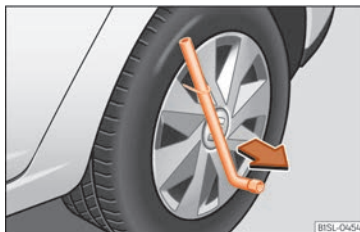

Fig. 30 Remove the wheel cover.
- Insert the box spanner through the hook, rest it on the tyre and remove the wheel trim » **Fig. 30**.